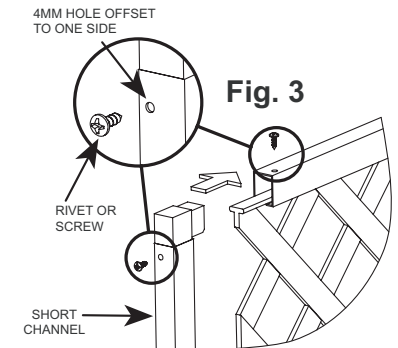

Fig. 3
- 2 Fit the plastic corners into one end of each short channel and then fit the two short channels onto the ends of the long channel as per Fig. 3.
- 3 Drill 4mm holes through the channels and corners and then screw or pop rivet the channels to the corners as per Fig. 3. Please ensure that screws do not interfere with the fence extension panel by fitting them off to one side of the channel.